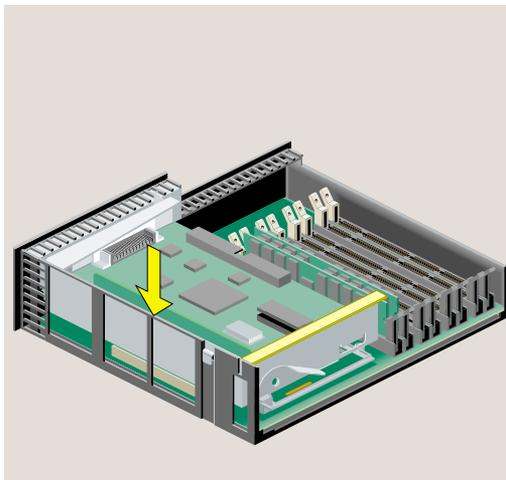

Figure 2-19 PCI Tray Seated Correctly
9. Push the tray down firmly until it is completely seated. You hear a click as it seats. Check that the lever returns to its starting position (Figure 2-19).